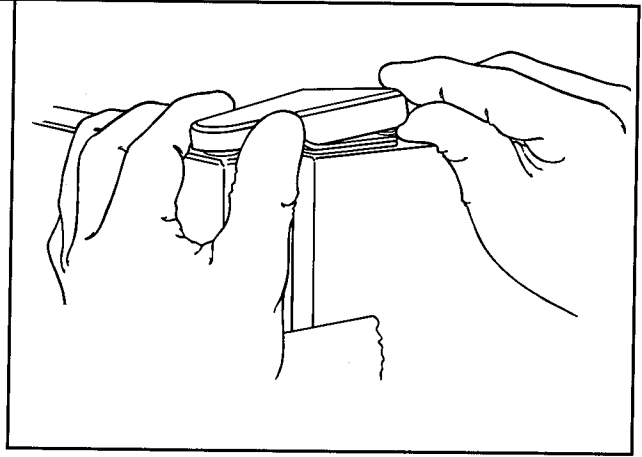

Figure 58
- b. Slide hinge cover toward front and off hinge. See Figure 58.